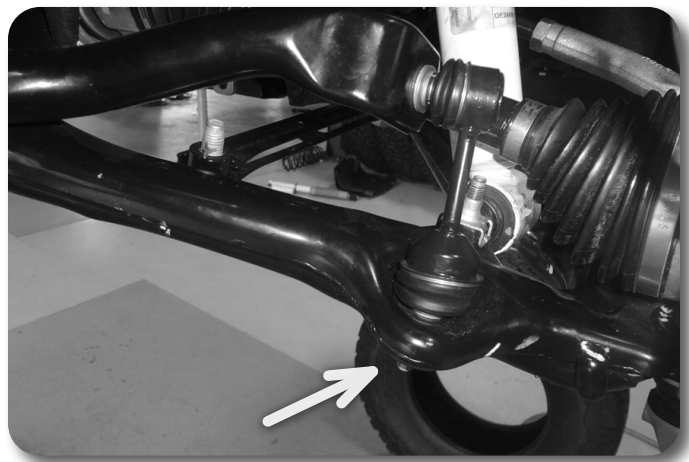

Figure 1
4. Disconnect the front driver's and passenger's side sway bar links from the lower control arm (18 mm). Save hardware. Figure 1